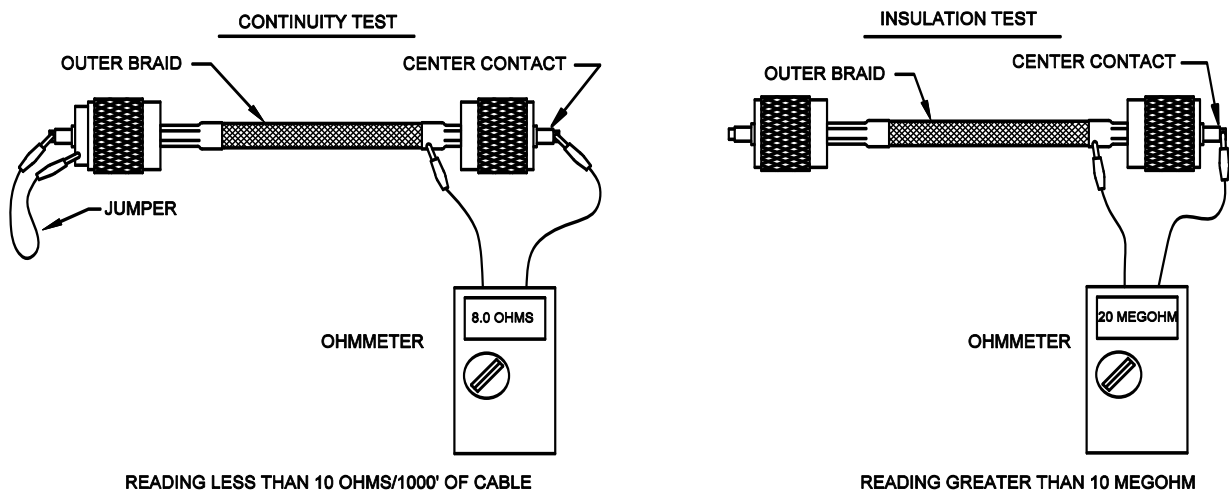

Figure 18
The following tests should be performed on each length of cable after both connectors are installed. Figure 18 illustrates the tests. Any overbraid or outer jacket is not shown.
1. Connect a short jumper wire with alligator clips between the UHF connector's center contact and the body of the connector at one end of the cable, as shown in Figure 18. **Note: Do not clip onto the threaded coupling ring because it is not tightly secured and will give intermittent readings.**
1. Remove the jumper wire used in the continuity test, as shown in Figure 18 and connect one ohmmeter test lead to the connector's center contact and the other lead to the connector body.